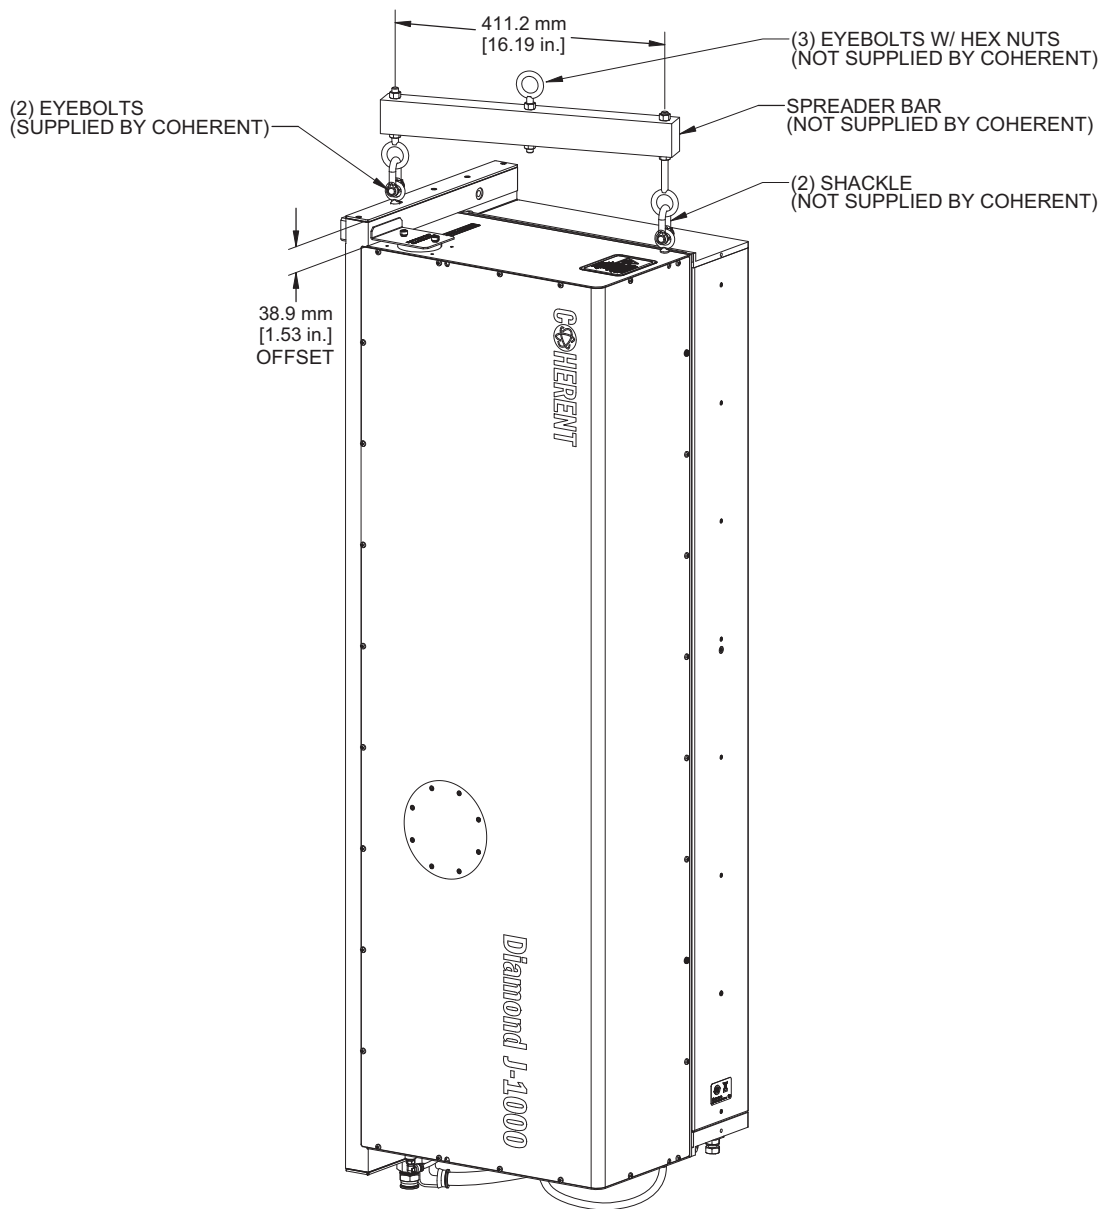

Figure 4-22. Vertical Mounting Illustration
2. Securely connect appropriate slings or chains to the eye-bolts and spreader bar. Chains/slings must be vertical when under load. See Figure 4-22.